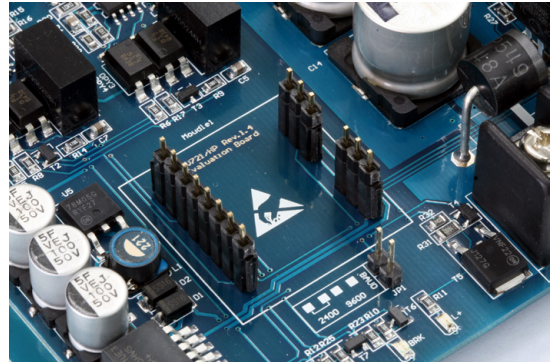

Figure 2
- 1) Place the needles into socket of EV721/HP as shown in figure 2 , both 2.54mm spacing round and square needles are allowed .